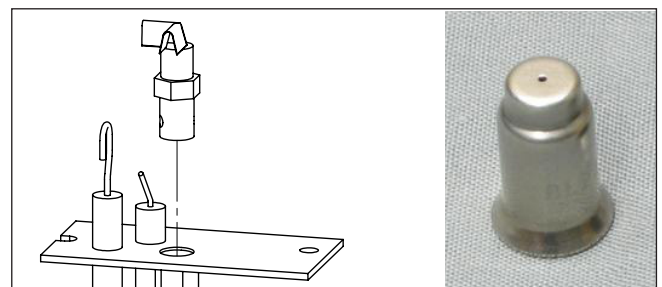

Figure 20: Pilot Orifice (Not to scale)
5. Convert the existing pilot orifice with the one provided in this kit (see Figure 20) using a **7/16" wrench**. Fully unscrew and remove the pilot head and replace the orifice insert, bell end down. Re-install and tighten the pilot, if the head does not reach proper orientation in the snug position then contact your Enviro dealer: